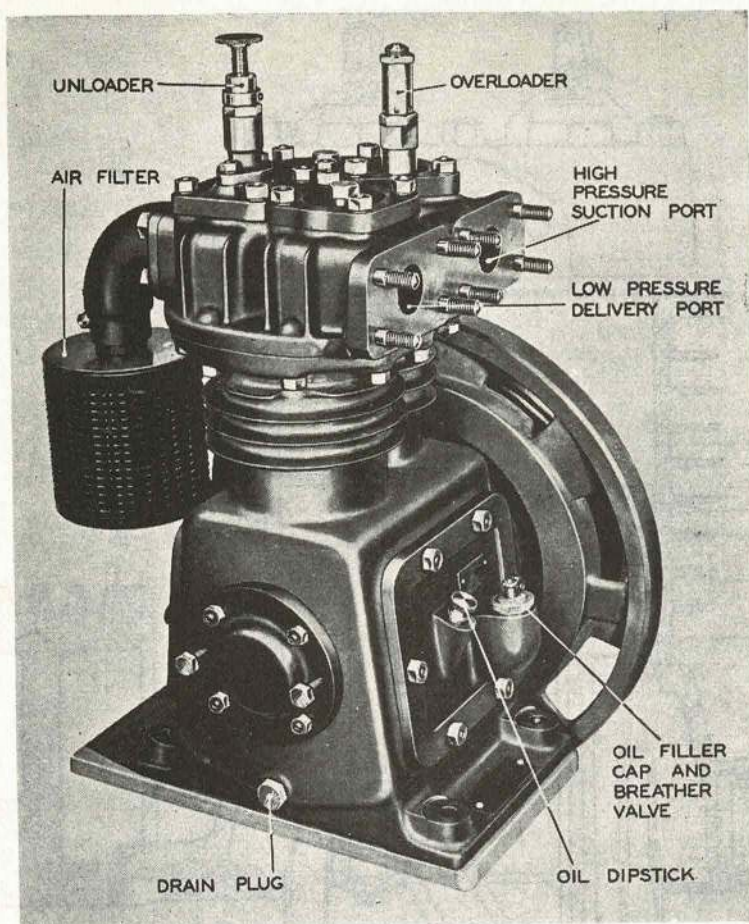

Fig. 6. REAVELL COMPRESSOR
14. This compressor (Fig. 6) is a two-cylinder air-cooled two stage type, the pistons in both cylinders moving in the same direction. It has a capacity of $24\frac{1}{4}$ cubic feet per minute when working at a pressure of 100 lb per sq. in. at 720 r.p.m. The bore and stroke of the cylinders are:—